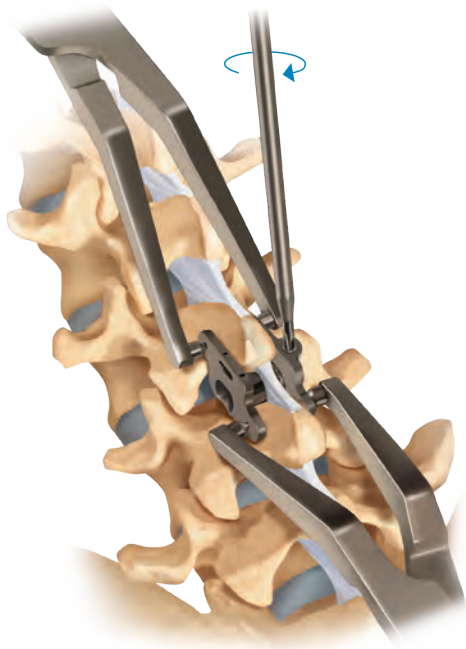

Figure 23
- While keeping the compressors engaged with the plates to serve as a counter-torque, tighten the set screw until the torque handle clicks twice (**Figure 23**).